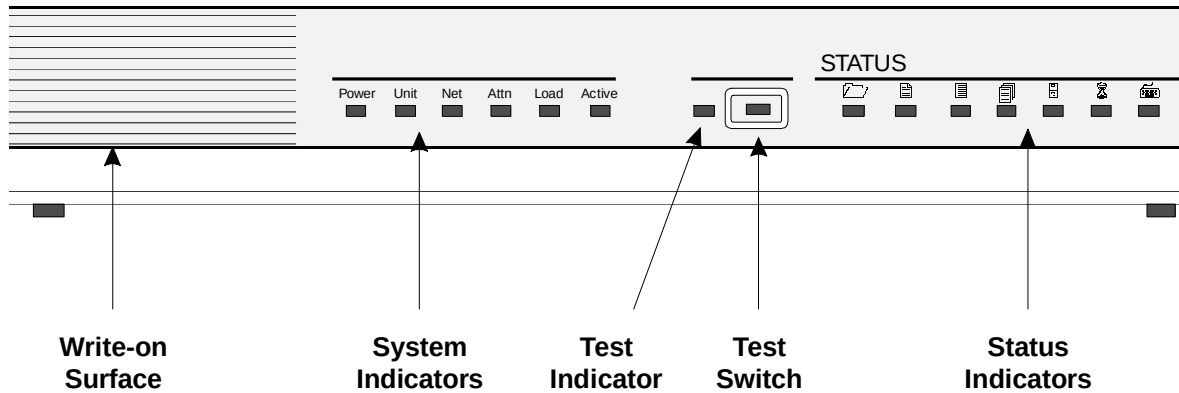

Figure 3-29: Front Panel of the Network Terminal Server
8. Turn the NTS *Off* and *On* again. Within 15 seconds, push the **TEST** button on the front of the NTS (see Figure 3-29).